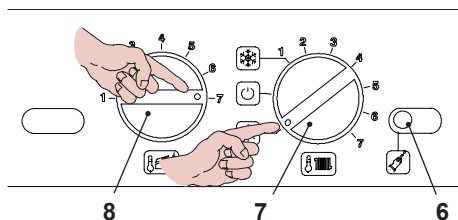

Figure 15.9
- Position the control panel knobs as shown in Figure 15.9
- To enter Chimney cleaning mode, enter programming by pressing the reset button 6 in Figure 15.9 for 10 seconds until parameter **P01** appears on the LCD display; the following will appear on the LCD display (the sequence **P01** alternates ---).
- Press the reset button 6 Figure 15.9 to scroll the various parameters until reaching the valid parameter **P09** for the Chimney cleaning mode setting: the following will appear on the LCD display (the sequence **P09** alternates with **00**).